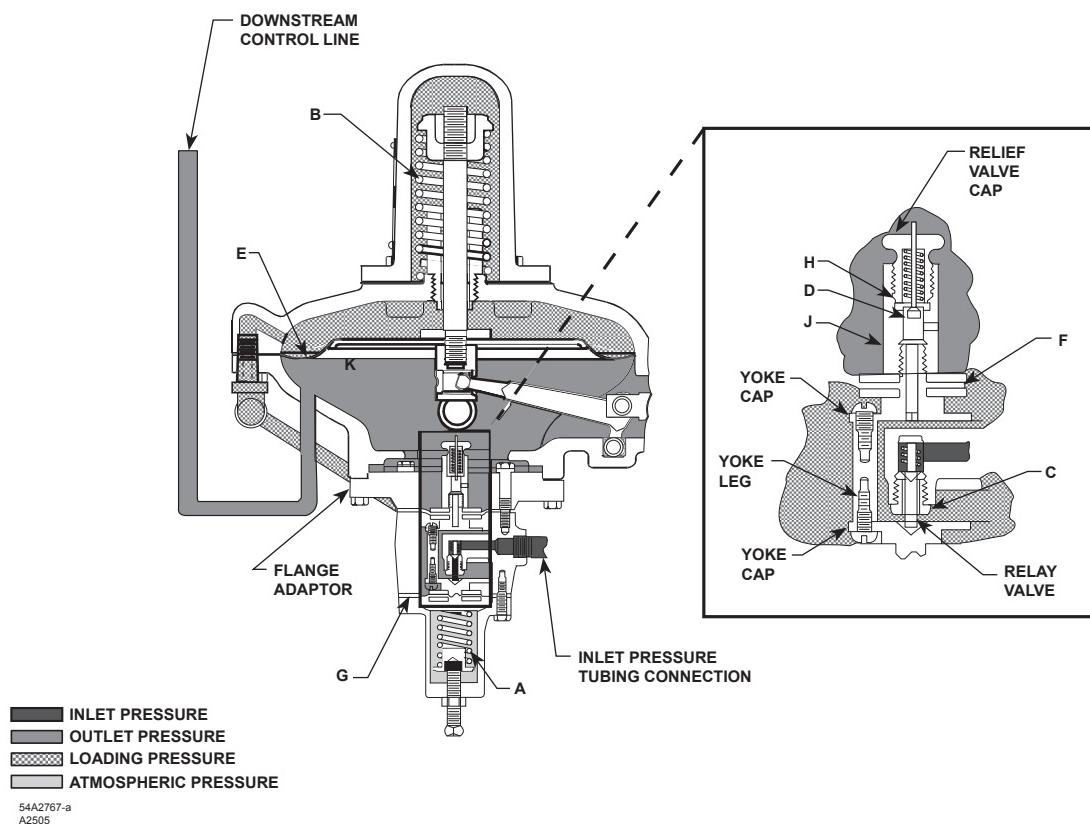

Figure 3. Schematic of Type 99 Regulator with Type 61HP (Extra High Pressure) Pilot
Normally, excess loading pressure slowly escapes downstream around bleed valve (D) (Figure 3) or